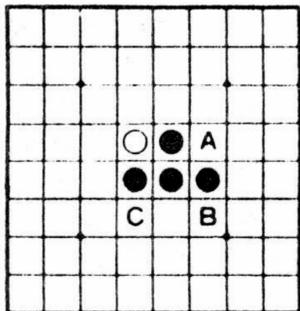

Figure 3
5. Now it is white's move. Figure 3 shows the moves that are available (A, B, C).